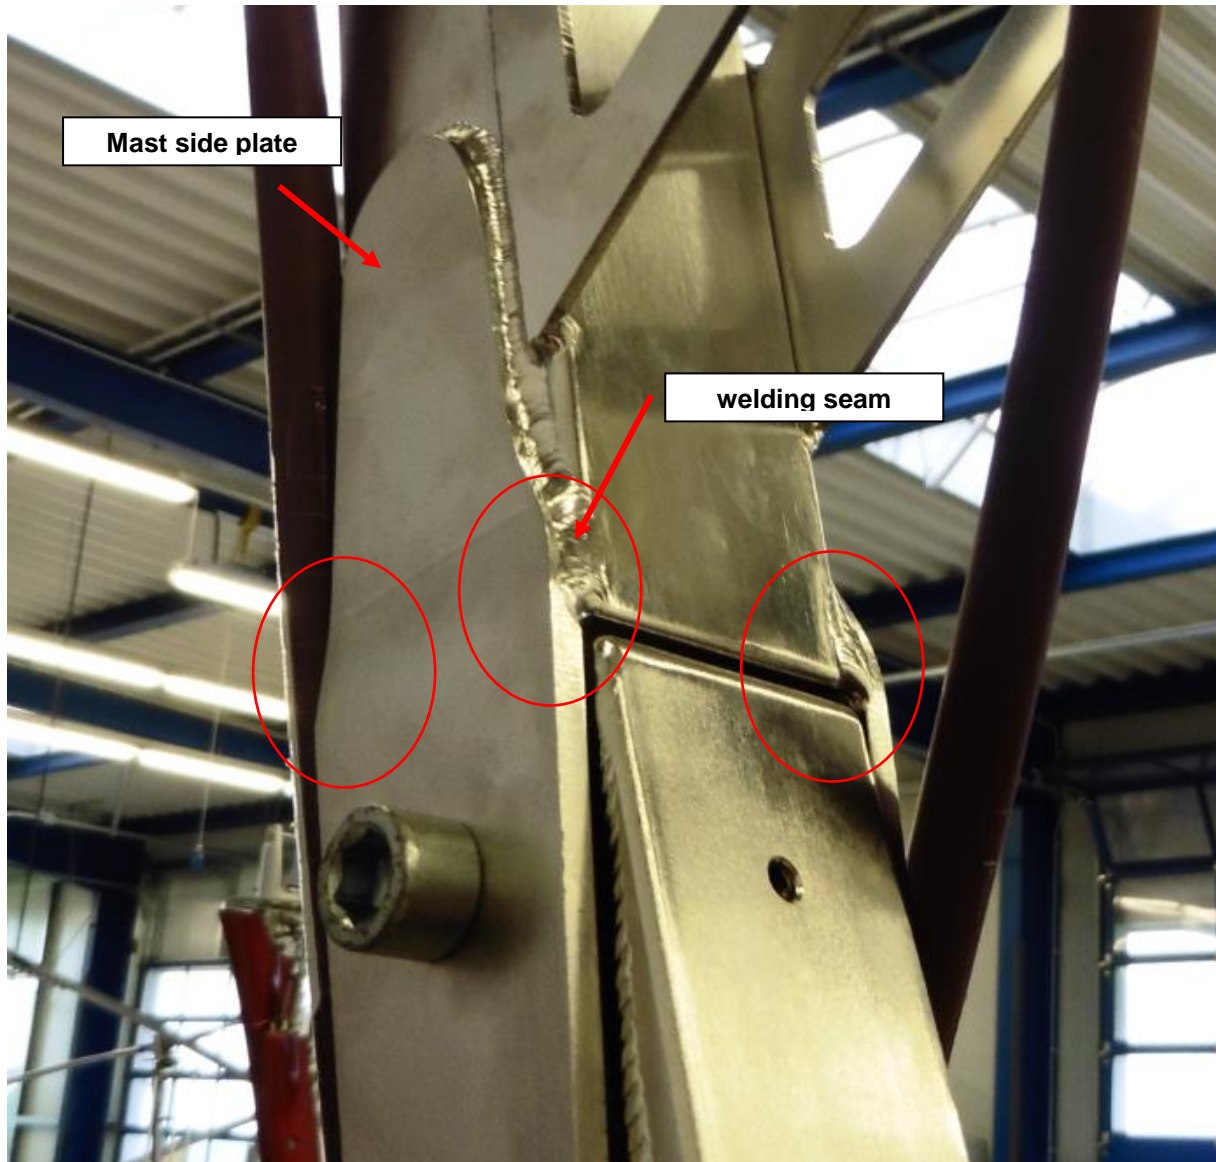

Fig 1: Calidus upper to lower mast connection new
The purpose of this SIL is to highlight the need to thoroughly check this part (see fig.1).
- check the upper to lower mast side plates thoroughly for cracks (see fig. 1 and 2)
- check the weld seams of the side plates to lower mast for cracks (see fig. 1)